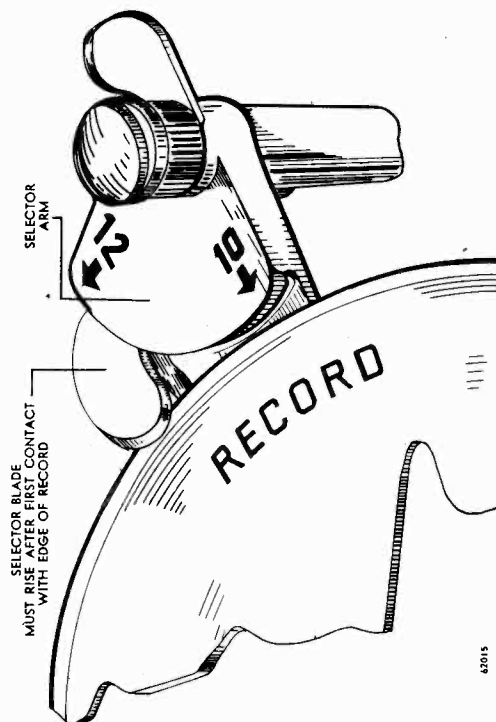

FIGURE 20. TOP VIEW
F. SELECTOR ARMS AND BLADES**I. BLADE ADJUSTMENT** (see fig. 20)